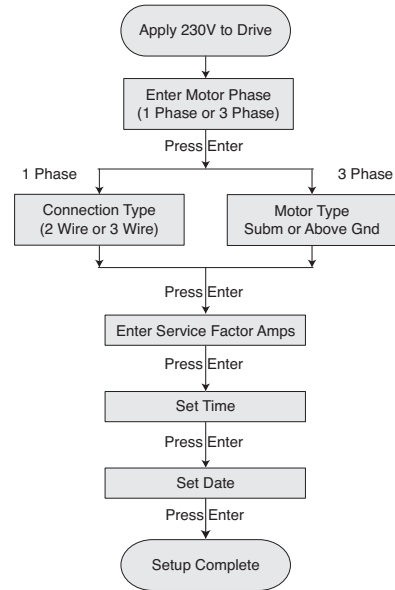

Figure 10 - Intellidrive Setup Guide
1. Program the Intellidrive: Apply power to the device. Setup Guide will appear in the display. Follow keypress sequence shown in Figure 10.